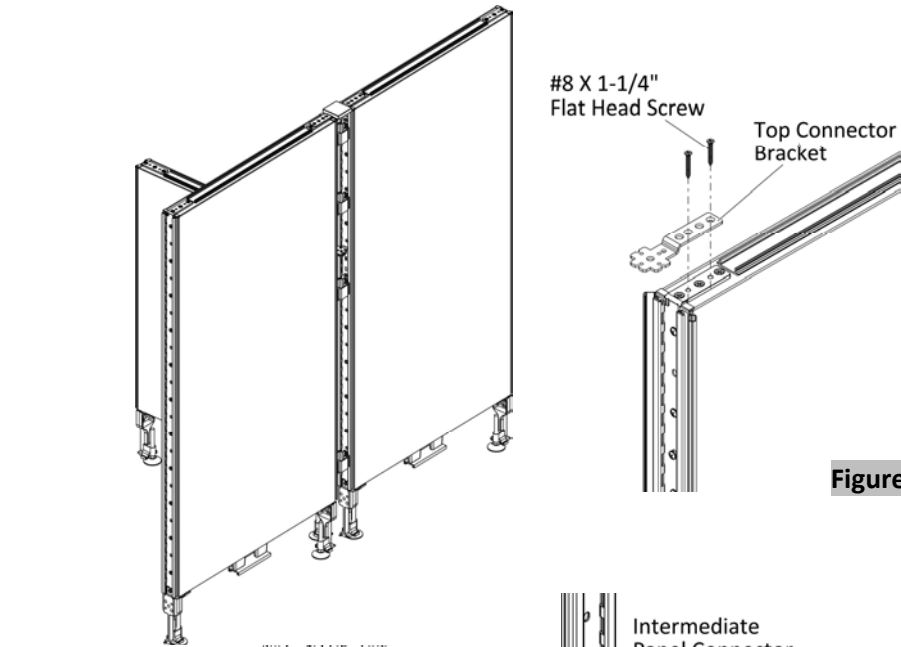

Figure 1
- 1. Position top connector bracket on top edge corner of shorter panel, (Figure 1).